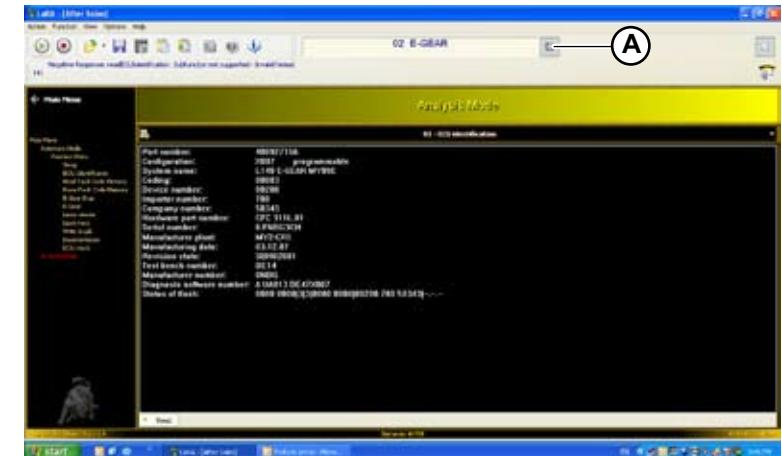

Fig.7
- Select the control unit to be checked (ES: 02 E-GEAR **A-Fig.7**) and start the connection ().
All identification data of the control unit are read (**Fig.7**).